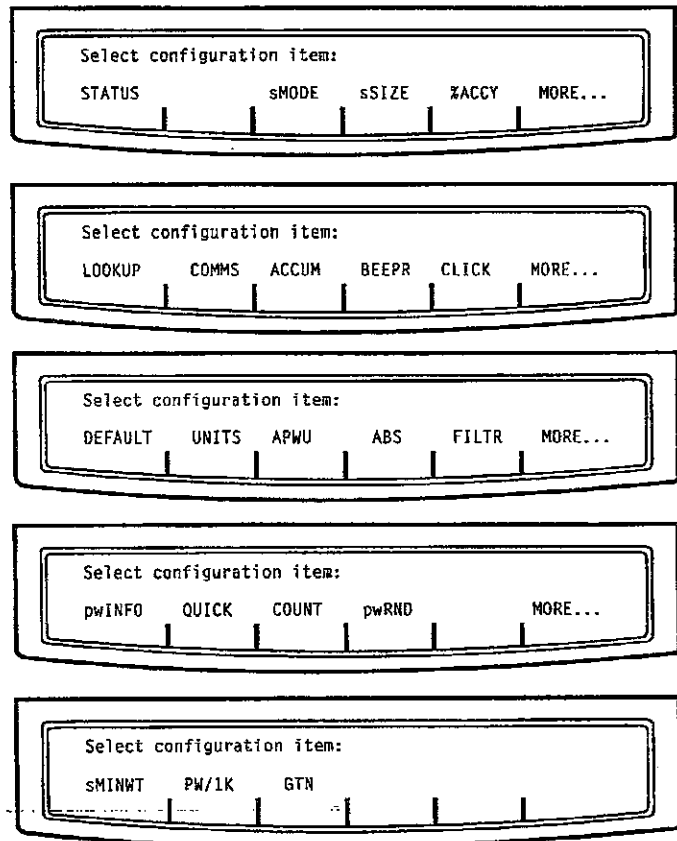

Figure 8
The first display in Figure 8 appears. As you press the **MORE. . .** soft key the other soft keys in Figure 8 appear.
1. Press the **COMMS** soft key you see in Figure 8. . .